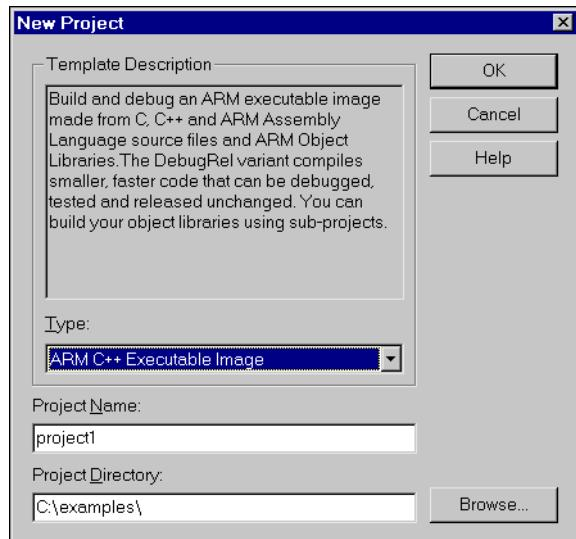

Figure 2-26 The APM New Project dialog
2. Select **Project** from the list of options and click **OK**. The New Project dialog is displayed (Figure 2-26 on page 2-54).